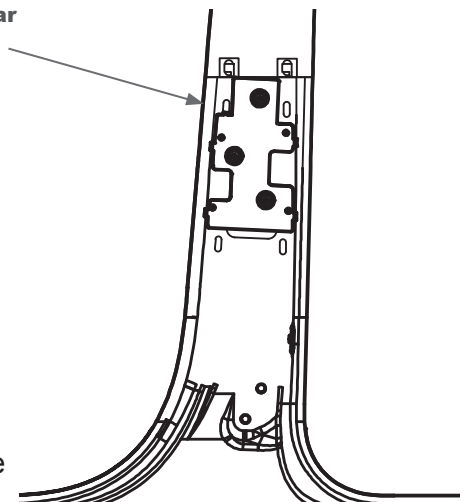

Fig. 1
- A. Locate and remove the lower part of the b-pillar trim to access the sheet metal body. After the trim is removed put the 3PK5715-01D & 3PK5715-01P b-pillar brackets in location and mark the 4 holes to drill a pilot (with 3/16" drill bit) for the self tapping screws (3X162). The b-pillar bracket is located when the tab is all the way down on the slot as shown in fig. 1. Secure the b-pillar brackets to the driver & passenger sides of the vehicle with the self-tapping screws.